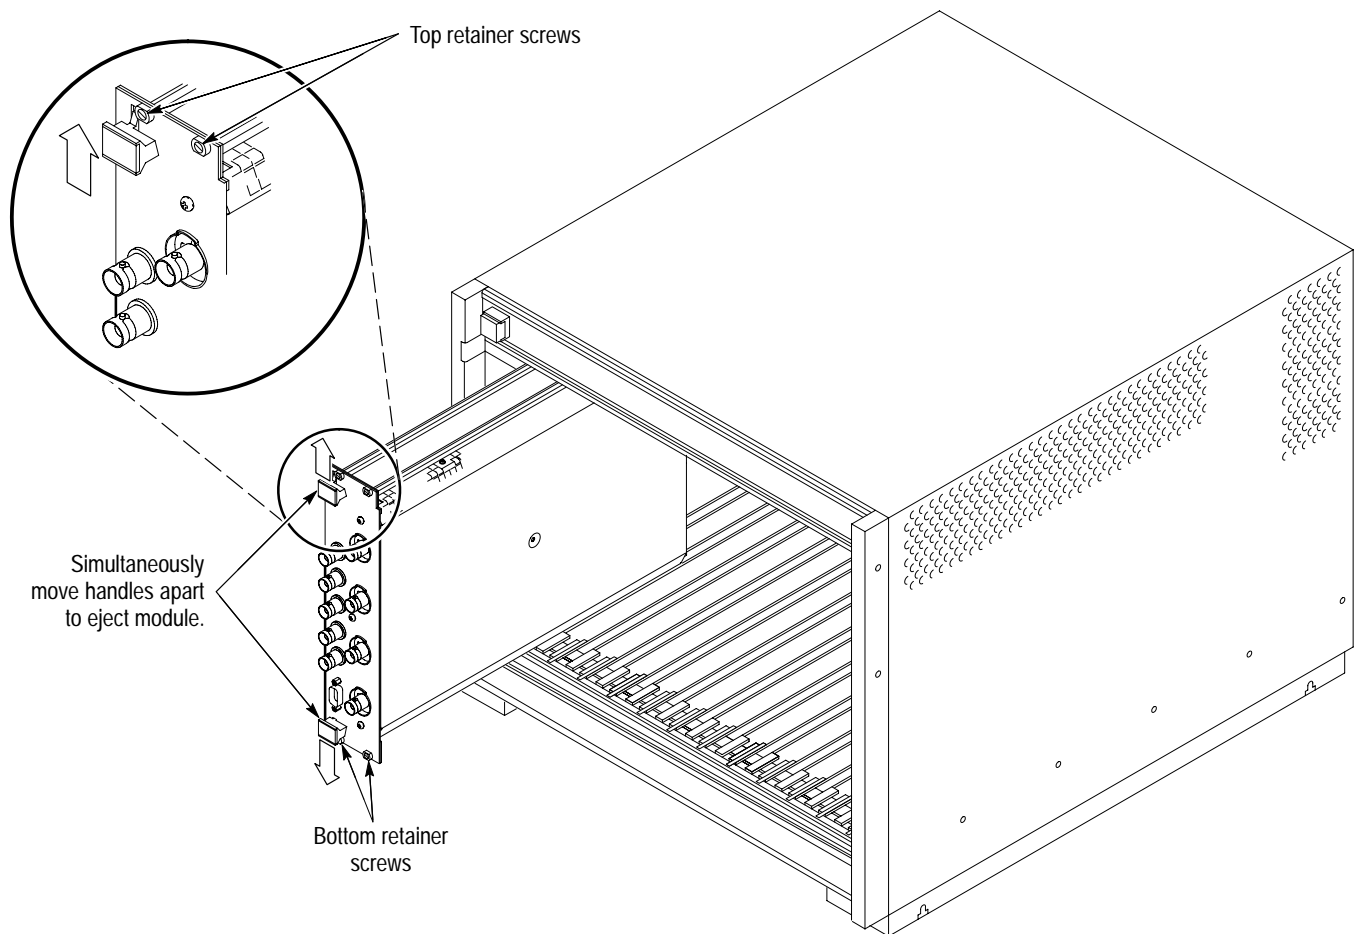

Figure 2-2: Module retainer screws and ejector mechanism
Use the following procedure and Figure 2-2 to install the waveform analyzer into the mainframe:
2. Insert the waveform analyzer into the mainframe top and bottom module guides and push it partially into the mainframe (Figure 2-2). Then slide the waveform analyzer into the mainframe as far as it will go without forcing it.
2. Using a screwdriver, loosen the top and bottom retainer screws (Figure 2-2).